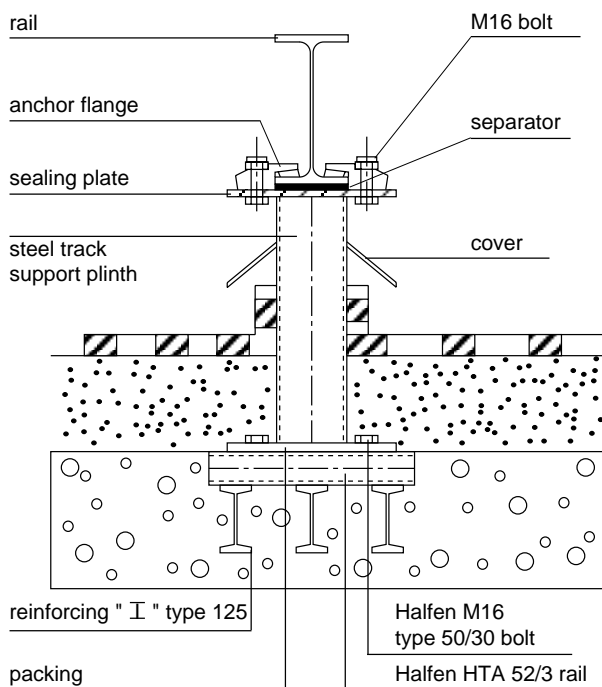

Fig. 17 - Potelet acier
2.2. Steel track support plinths (Fig. 17)